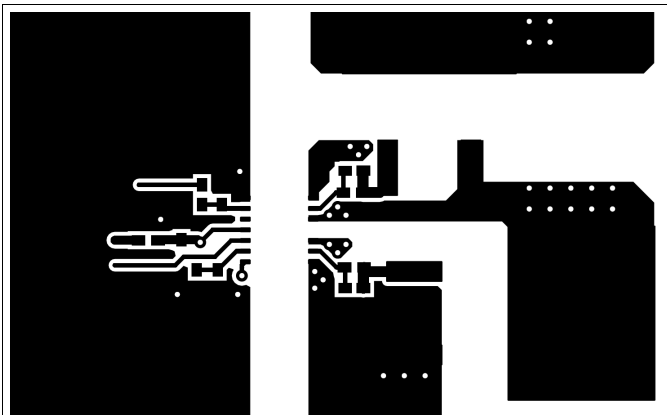
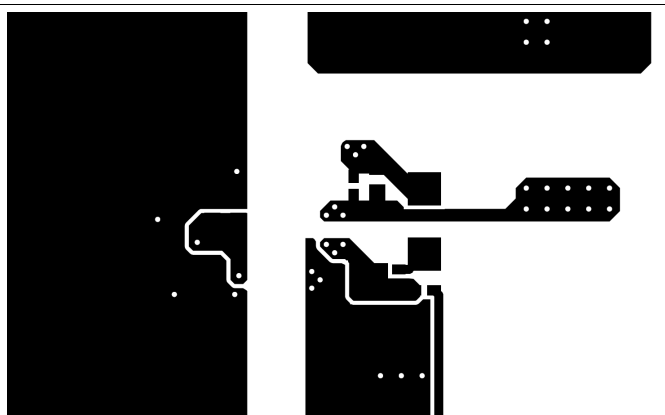

图 42. Top Layer Traces and Copper
图 43. Bottom Layer Traces and Copper
- Increasing the PCB copper connecting to VDDA, VDDB, VSSA and VSSB pins is recommended, with priority on maximizing the connection to VSSA and VSSB (see Figure 42 and Figure 43). However, high voltage PCB considerations mentioned above must be maintained.
Figure 42 and Figure 43 show top and bottom layer traces and copper.